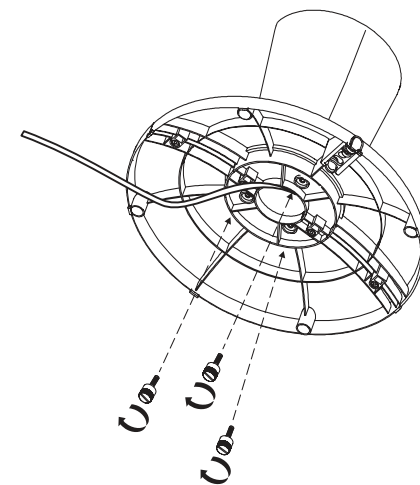

Fig. 6
- Secure the base assembly to the pedestal by inserting and tightening the 3 screws in the 3 holes located on the bottom of the base (Fig. 6).